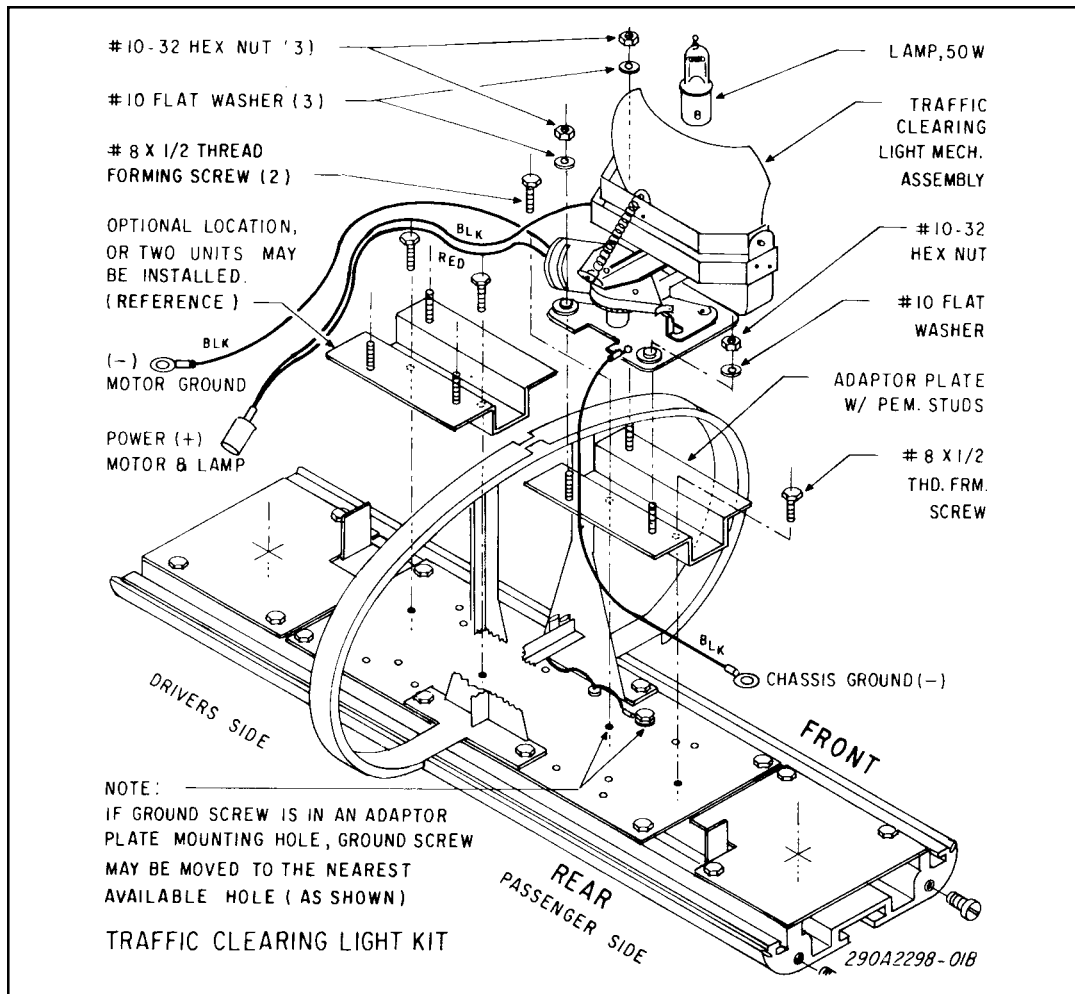

Figure 1. Installation Diagram.
2. Using the two mounting holes provided in the light bar center mounting plate, install the adapter plate with two #8-32 x 1/2 Thd. Form. screws (supplied) as shown in figure 1.
3. Mount the traffic clearing light mechanism assembly to the adapter plate with three (each) #10-32 hex nuts and #10 flat washers (all supplied) as shown in figure 1.